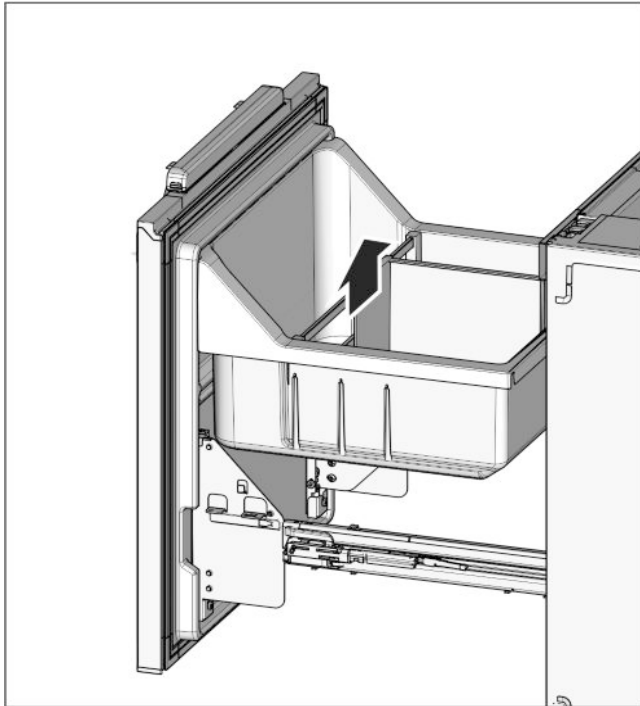

Fig. 25
- ▶ Re-insert the bottle rack Fig. 25 (32) and vegetable bin Fig. 25 (31).